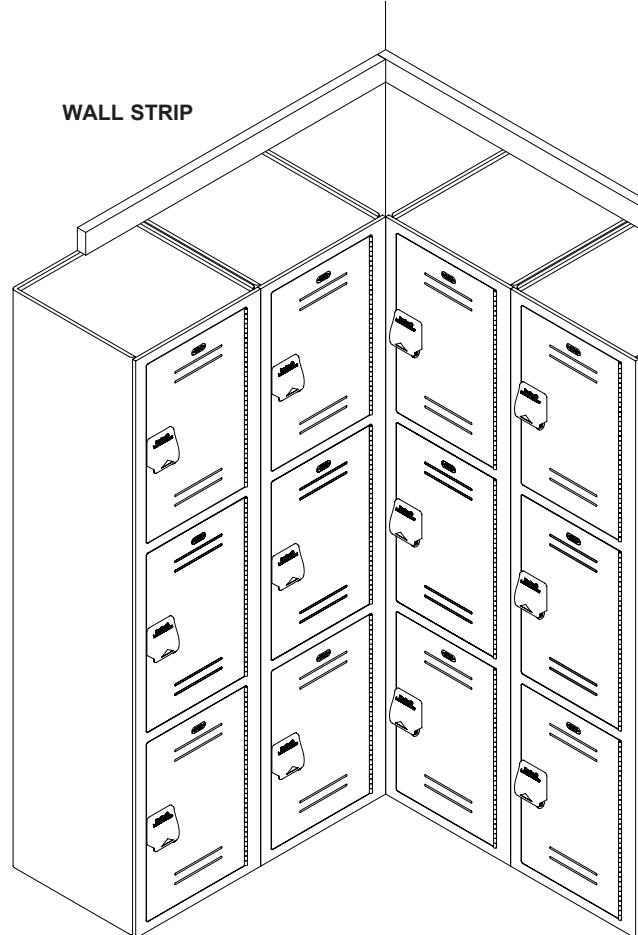

Figure 7b
2. Position the wall strip (or strips) on top of the lockers flush against the wall as shown in Figure 7b. Measure, scribe and drill 1/4" mounting holes into the wall strip as follows: